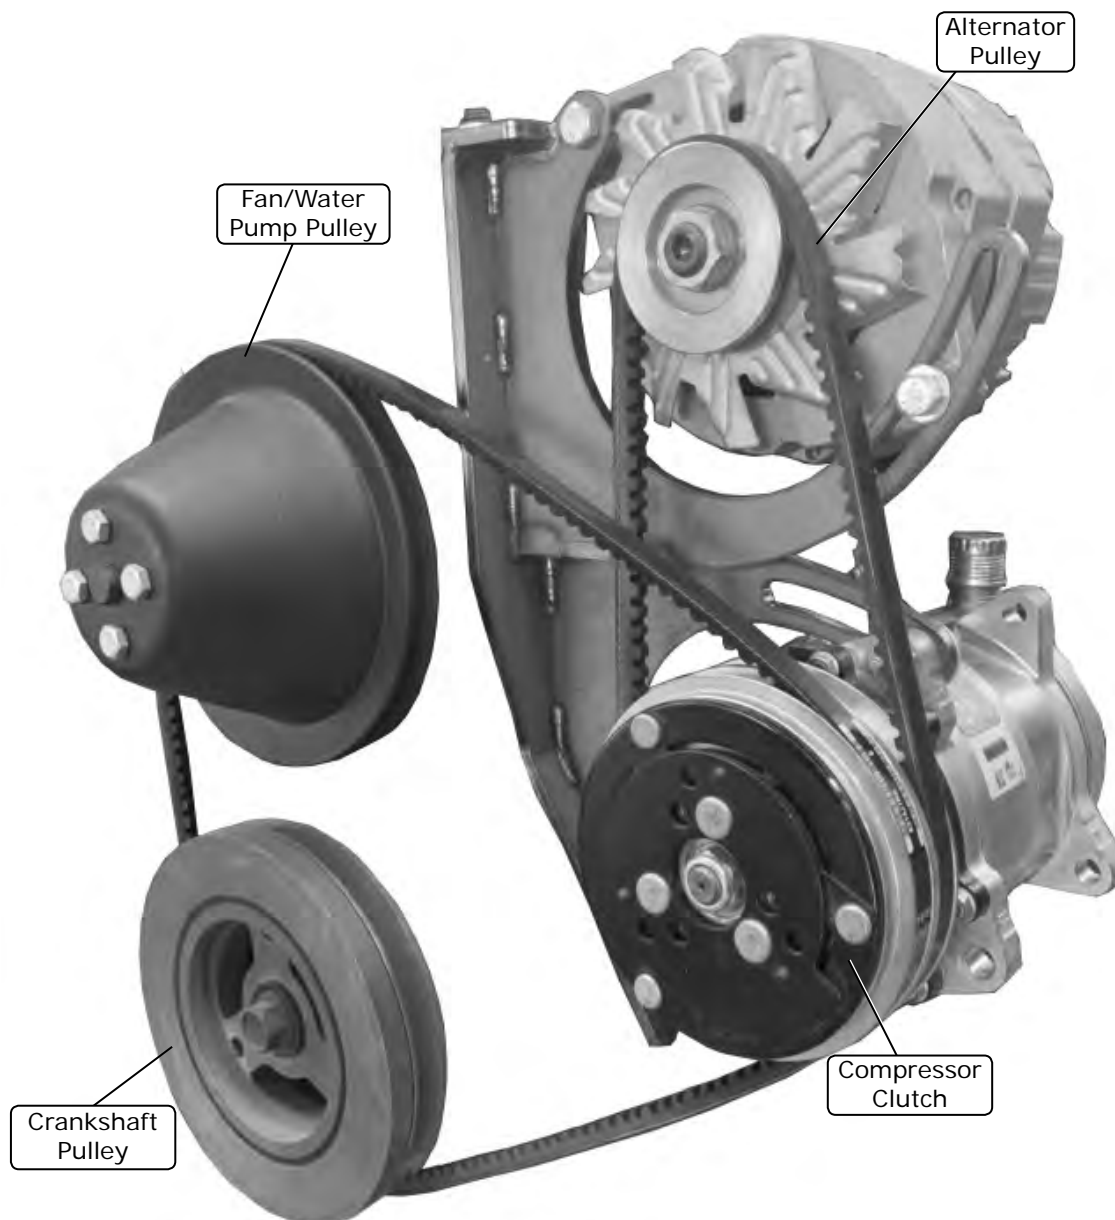

Figure 4
2. Install the belts as shown in Figure 4, below. Adjust to the proper tension and tighten all bolts.